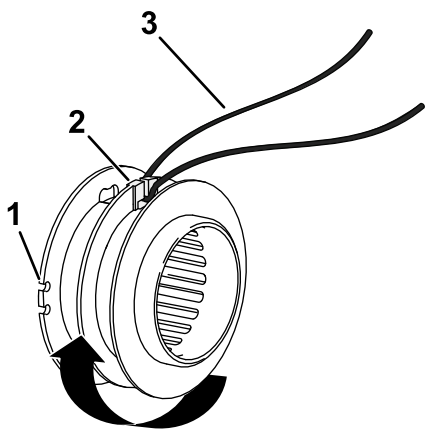

Figure 15
5. Bend the new string at the midpoint and insert the bend into the starter slot in the center rim of the spool (Figure 15).
6. Wrap the 2 halves of the string evenly and firmly around the spool as shown in Figure 15.
7. Wind the string, leaving just enough extending from the spool to contact the swath blade, and snap the ends into the guide slots on the spool (Figure 15).